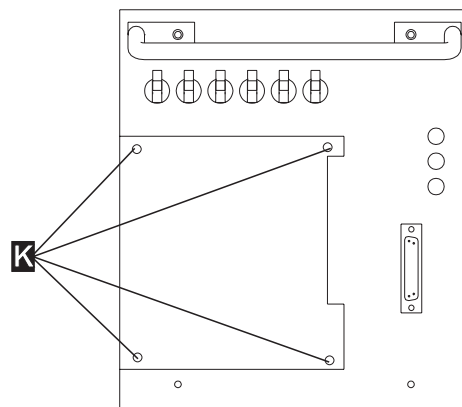

Figure 4-5. AC Power Grid
4. \_\_\_\_ Reinstall and secure the grid using the 4 screws **A** (see Figure 4-5 on page 4-7). If you have a second power supply, repeat Step 1 on page 4-7 to Step 4.